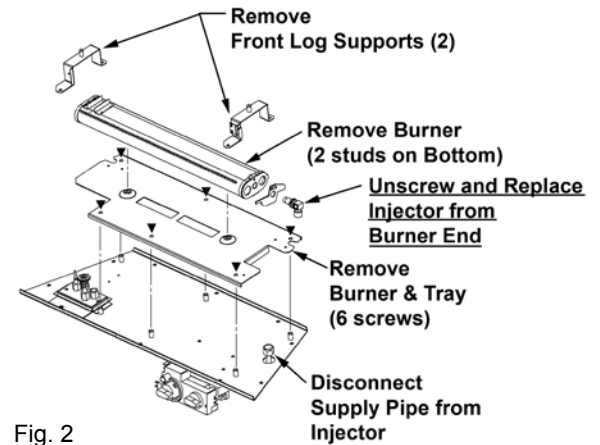

Fig. 2
3. **Remove and replace the existing main burner injector.** The main burner injector may be removed with the module in place (if space for wrenches permits). Disconnect the piping and rotate the injector out the end of the burner while holding the supply pipe down out of the way from underneath; loosening the 2 right hand screws holding the burner tray will allow more separation to rotate the injector. Alternatively, shut off the gas valve, disconnect supply and remove burner module from firebox to gain more space to remove the injector (see Fig. 2). Check the catalogue # stamped on the side of the injector (see chart) and reinstall into the end of the burner ensuring the air shutter is installed between the injector and the burner. Reassemble the module.